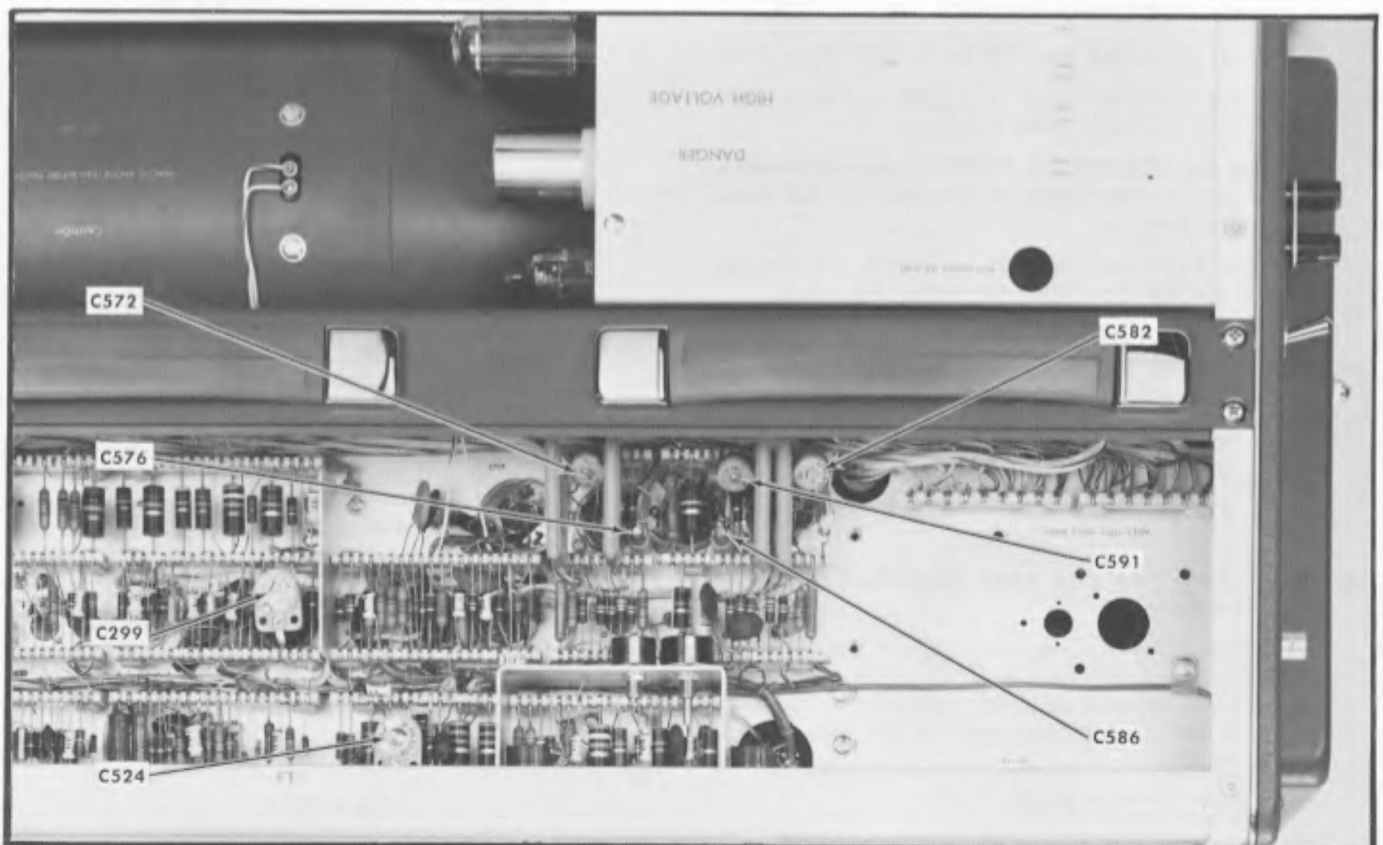

Fig. 5-8. Calibration adjustment locations (top right side view).
If the first half of the sweep is non-linear and 1-cm spacing of the time markers is difficult to obtain, preadjust C299 (see Fig. 5-8) to improve sweep linearity.
- e. Adjust C299 (see Fig. 5-8) for proper timing of 1 cycle per cm from the 1-cm to 9-cm graticule lines. (Disregard the first sine wave near the 0-cm graticule line.)
- g. Check that C576 and C586 (see Fig. 5-8) slug-adjusting screws are about six turns above the metal wiper contacts of the capacitors.
- h. Adjust C572 and C582 (see Fig. 5-8) for maximum sweep expansion. (Use a low-capacitance alignment tool when making the adjustments.)
Adjust C591 (see Fig. 5-8) for best display linearity of 1 cycle per 2 cm.